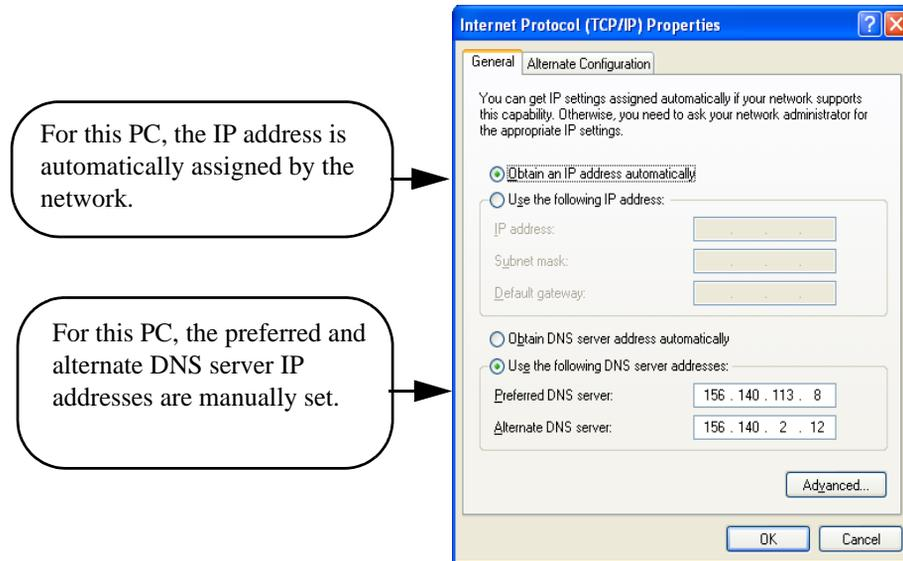

Figure 70 TCP/IP Properties Dialog Box (Windows XP)
- 6 Figure 70 shows an **Internet Protocol (TCP/IP) Properties** dialog box to automatically obtain IP addresses and to manually assign DNS Server addresses on a Windows XP PC.